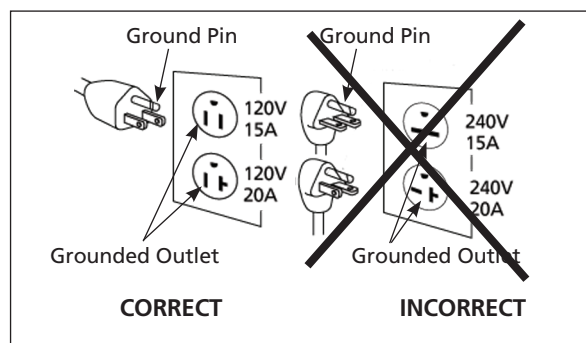

Figure 3 - Grounding Method
1. This product is for use on a nominal 120 v circuit. It must be grounded. In the event of an electric short circuit, grounding reduces the risk of electrical shock by providing an escape wire for the electric current. Unit is equipped with a cord that has a grounding prong. It will fit one of the common outlet types shown in Figure 3. If plug will not fit in the desired outlet, have the plug or the outlet replaced by a qualified electrician.
1. If the plug on the electrical cord of the unit is unfamiliar to you or will not fit your particular receptacle, Figure 3 will help you understand why by illustrating the different plugs and the voltages they are to be used with.
3. This product is for use on a nominal 120 volt circuit and has a grounding plug that looks like the plug illustrated in Figure 3.